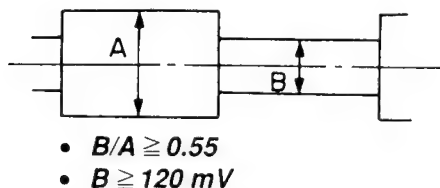

Fig. 5-4-11 Envelope output and output difference
2. In playback using the same video deck as used for the recording (with a E-180), the video envelope should meet the specification as shown in Fig. 5-4-11. (Check for both modes, SP and LP.)